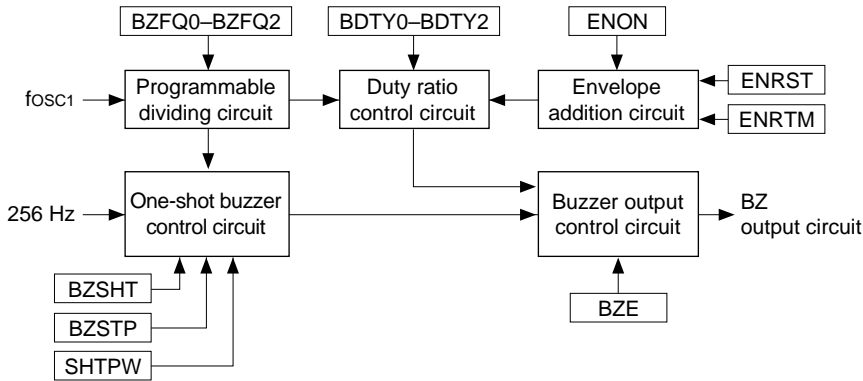

Fig. 4.12.1.1 Configuration of sound generator
The E0C63454 has a built-in sound generator for generating buzzer signals. Hence, generated buzzer signals (BZ) can be output from the BZ terminal. Aside permitting the respective setting of the buzzer signal frequency and sound level to 8 stages, it permits the adding of a digital envelope by means of duty ratio control. It also has a one-shot output function for outputting key operated sounds. Figure 4.12.1.1 shows the configuration of the sound generator.